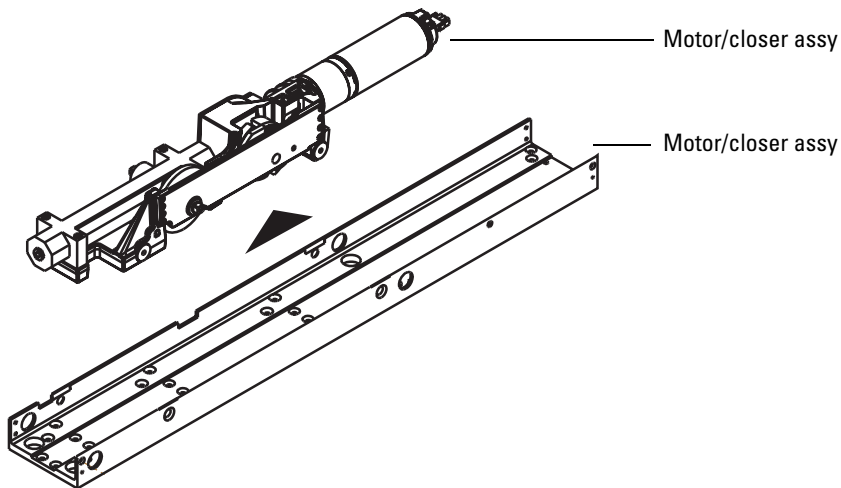

Figure 1.13 Removing the motor/closer assembly from the housing
15. Reinstall motor/closer assembly. Make sure that the harnesses are not trapped behind the motor/closer assembly. See Figure 1.13 on page 1-15.